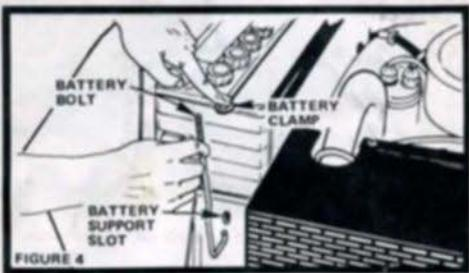

FIGURE 4
- e. Hook remaining Battery Bolt to right side of Battery Support and fasten Battery Clamp to it with remaining Flat Washer and Wing Nut (Fig. 4). Tighten Wing Nuts securely.